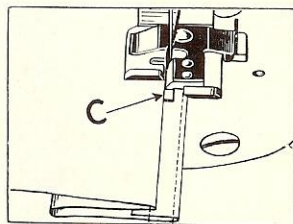

Fig. 7. Invisible Hem with Stitched Edge Being Blind Stitched
- Place this stitched edge under the attachment with the fold against the guide C, as shown in Fig. 7. Adjust the guide C to the type of fabric, lower the presser bar and proceed to blind stitch the hem.